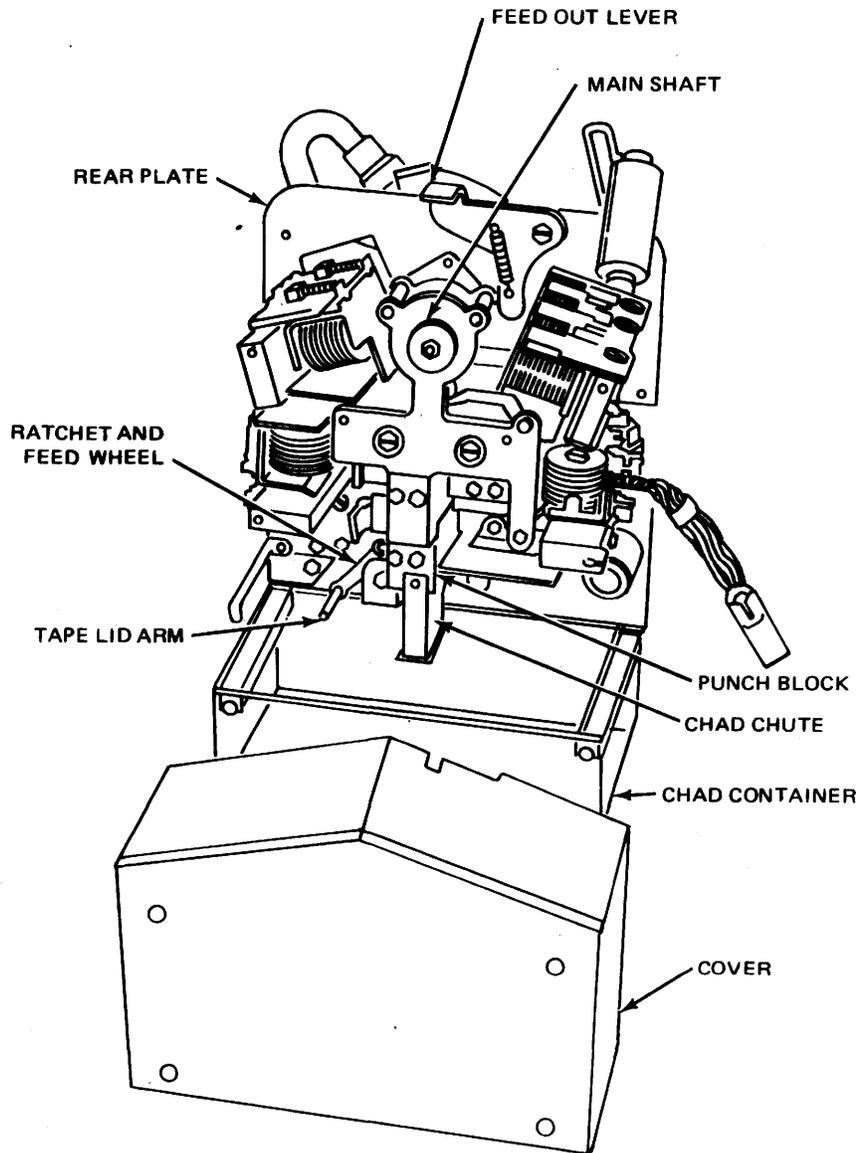

Figure 6-23. Tape Punch Unit.
6-27. Punch Pin, Punch Block Drag Links, Tape Guide, and Biasing Spring Adjustment. To adjust the punch pin, punch block drag links, tape guide, and biasing spring, perform turnoff procedure (paragraph 6-24, step 2.); see figure 6-23, 6-24, 6-25, 6-27, and 6-28, and proceed as follows:
2. Adjust punch pin (see figures 6-23 and 6-24).
- a. Remove tape punch unit cover (see figure 6-23).
4. Adjust tape guide (see figures 6-23 and 6-27).
a. Rotate far side of main shaft (see figure 6-23) to ensure punch bail is in its highest position.
c. Lift tape lid arm to allow free passage of tape (see figure 6-23).